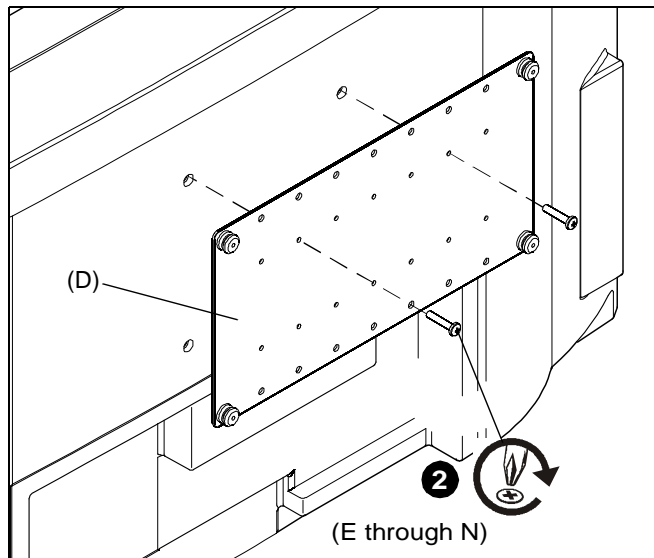

Figure 5
- Attach interface bracket (D) to display using appropriate screws (E through N). (See Figure 5)
**NOTE:** If the display has a recessed mounting surface, spacers (O or P) may be required between the display and interface bracket (D).